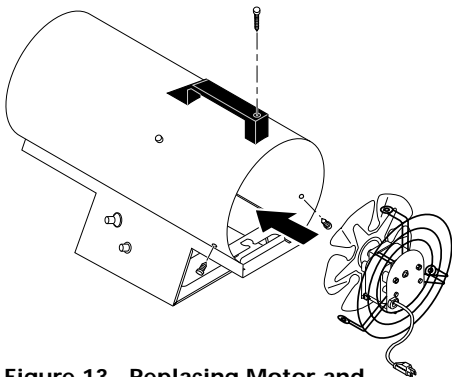

Figure 13 - Replacing Motor and Fan Guard Into Heater
- Place motor and fan guard into rear of heater shell. Make sure power cord is properly located (See Figure 13).